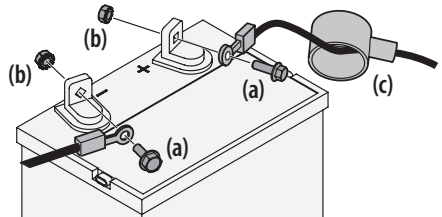

Figure 13
1. If present, remove the plastic cover from the positive battery terminal. Attach the red connector to the positive battery terminal (+) using the bolt (a) and hex nut (b). See Figure 13.
2. If present, remove the plastic cover from the negative battery terminal and attach the black cable to the negative battery terminal (-) with the bolt (a) and hex nut (b). See Figure 13.
3. Position the red rubber boot (c) over the positive battery terminal to help protect it from corrosion. See Figure 13.